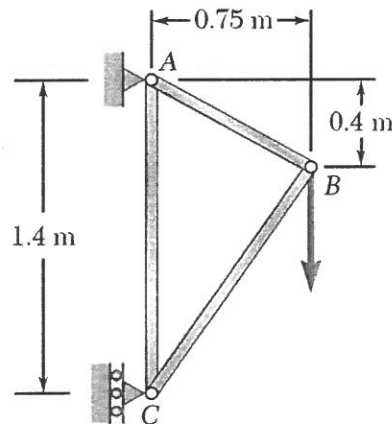

Figure 1(a)
**Instruction:** This paper consists of **SIX (6)** questions. Answer any **FOUR (4)** questions in the answer booklet provided. All questions carry equal marks.
- (a) Figure 1(a) shows a structure under a load of 28 kN at point B. Members AB, AC and BC of the truss have dimension of 20×20mm square bar. Member AB, AC and BC have the same material properties and tested to have an ultimate load of 120kN. If a factor of safety of 3.2 is to be achieved for both bars. Determine the required cross-sectional area bar AB and AC. Draw out free body diagram and indicate the action and reaction of the structure.